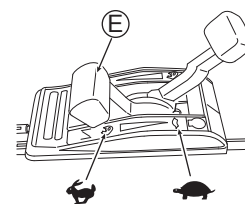

Fig. 12
- Confirm that there is no person behind you when pulling Starter knob (V).
- Securely grab Starter knob (V) when you pull it.
- Return Starter knob (V) slowly.
5. Warm up the machine before use. After the engine has warmed up, start mowing by setting Throttle lever (E) to "N". (See Fig. 12)